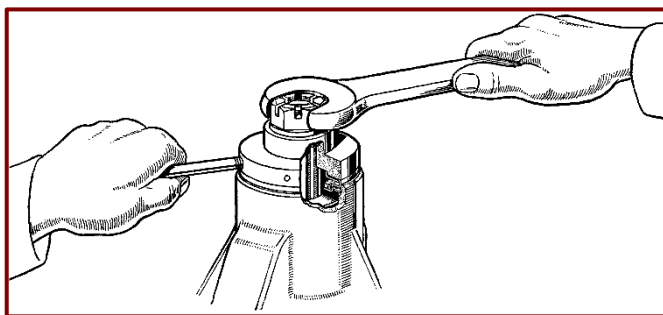

Figure 56. Fitting Pinion Oil Seal Assembly.
2. Install the oil slinger, and then fit the pinion oil seal assembly, using Tool No. SE.108 as shown in *Figure 56*. Place the oil seal with the dust excluder flange uppermost (not omitting the oil seal gasket used with the metal case type seal on later models), fit the installation collar SE. 108 and then tighten down the pinion nut and washer to drive the assembly home. Remove the installation collar.